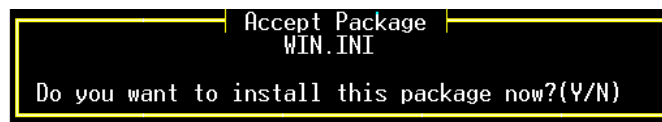

Figure 4-2: The Update Program's Install Option Prompt
4. If you are given the option of refusing the package, then the prompt illustrated in Figure 4-2 displays.